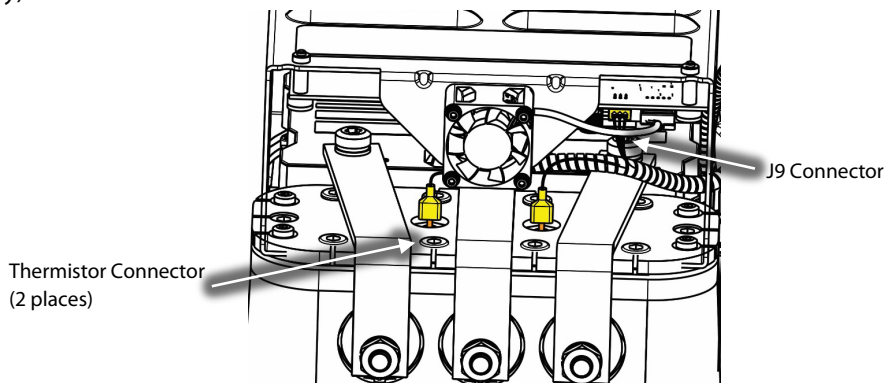

Figure 3 – Motor Thermistor and Soft Start Connectors
5. Disconnect the Motor Thermistor Connections. Refer to Figure 3 (Motor Thermistor and Soft Start Connectors) for this and the following step.